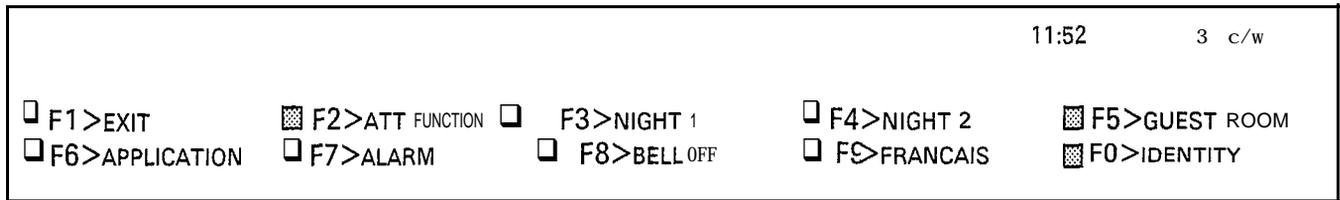

Figure 3-27 Additional Functions
3.36 Additional Attendant functions are accessed by the use of fixed key and softkey functions. The fixed FUNCTION key must be pressed to access the softkey functions. Figure 3-27 gives the appearance of the Attendant Console display after the fixed FUNCTION key has been pressed.